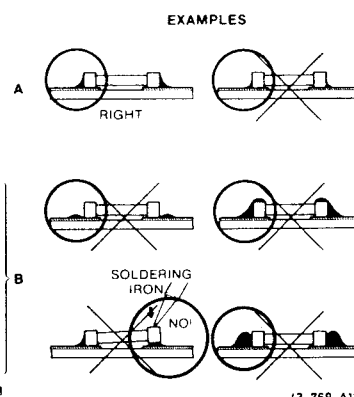

Fig. 3
- The quantity of solder must be proportional with the size of the solder land. If the quantity is too great, the SMD might crack or the solder lands might be torn loose from the printed board (see Fig. 3).